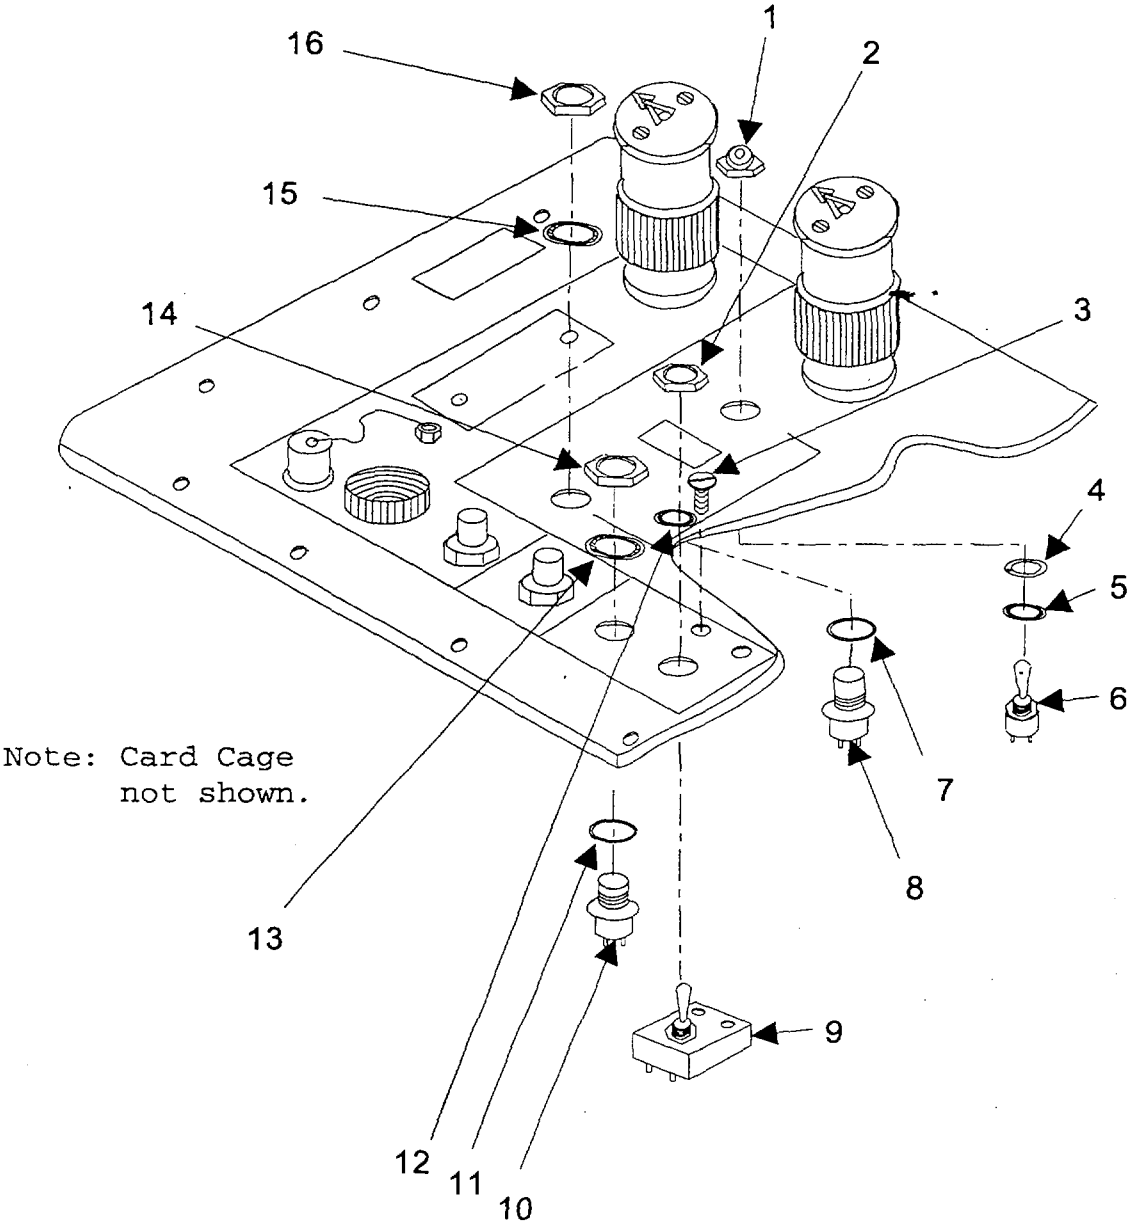

FIGURE 5-9.2. Switch Replacement.
- (1) Tag wires on BTRY INTLK switch (10, Fig. 5-9.2).
- (2) Desolder tagged wires.
- (3) Detach switch by removing lock nut (14), lockwasher (13), and switch and O-ring (11) from the front panel assembly.
- (4) Discard the faulty BTRY INTLK switch.
- (1) Tag wires on POWER switch (9, Fig. 5-9.2).
- (3) Using a slotted blade screwdriver and an open end wrench, remove two screws (3), lock nut (2), lock washer (12), and POWER switch from front panel.
- (4) Discard faulty POWER switch.
- (1) Remove PS CCA (refer to para. 5-10a).
- (2) Remove FTF CCA (refer to para. 5-9a).
- (3) Remove MCF CCA (refer to para. 5-8a).
- (4) Tag faulty switch (8, Fig. 5-9.2) wires.
- (5) Desolder switch wires.
- (6) Remove lock nut (16), lockwasher (15), faulty switch, and O-ring (7) from front panel.
- (7) Discard faulty switch.
- (4) Tag MODE switch (6, Fig. 5-9.2) wires.
- (5) Desolder tagged wires.
- (6) Remove dust and water boot (1), MODE switch, lockwasher (5), and locking ring (4) from front panel.
- (7) Discard faulty MODE switch.